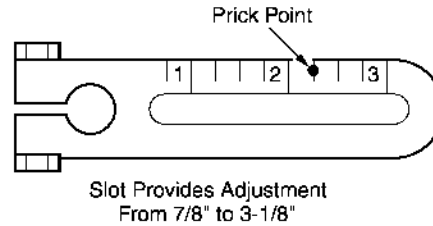

Figure-34 Proper Balljoint Position on Crank Arm.
3. Attach a balljoint to the actuator and damper crank arms at the correct position in the crank arm slot depending on the application. Refer to Figure-34, Table-7, and Table-8 for application settings. The use of 180° rotation damper actuators provides the best close-off at the end of stroke and the best controllability (turn down ratio).